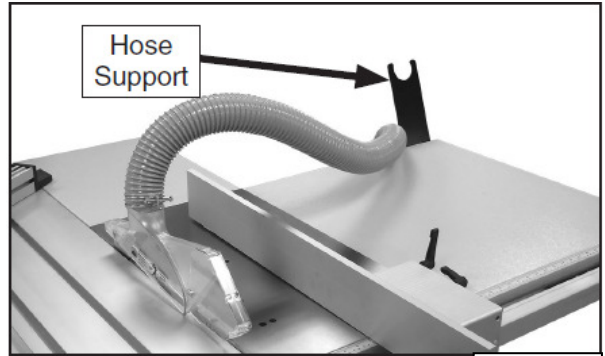

Fig. 30
- Secure a 2-1/2" hose over the hose support (Fig. 30) and connect it to the dust collection system.
- Run the 2-1/2" hose over the hose support (Fig. 30) and connect it to the dust collection system.